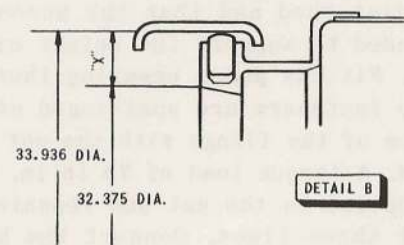

Fig. 13. Engine/intake duct alignment
(7) Insert the quick-release pins in the front mountings.
(8) Check the engine/air intake alignment (fig.13). If necessary adjust the front mountings by slackening the clamps and adjusting the turnbuckles (fig.6). The adjustment must not exceed one full turn. Check safety holes with 7/64 in. dia. wire and reclamp.
(9) Remove the quick-release pins securing the cradle and lower the cradle on to the trolley. Dismantle the hoists. Remove the support beams from the hatch longerons and stow them on the trolley.
(10) Through access panel 46S, lubricate the threads of the air system non-return valve housing (Sect.3, Chap.8A), refit the washers, and connect and lock the ducts.